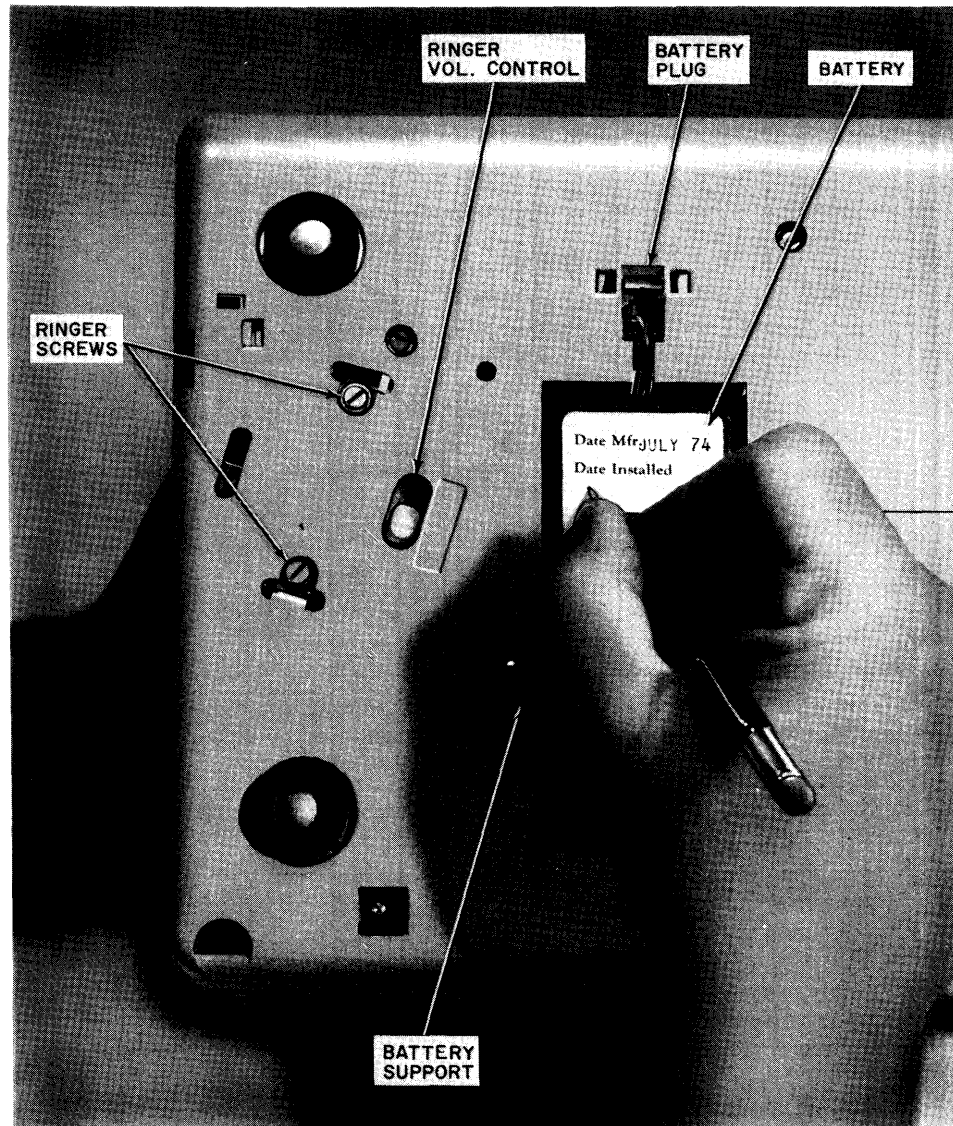

Fig. 6—2872A1M or 2872A2M Telephone Set, Bottom View
**3.02** The set is shipped from the factory with the battery disconnected. After all wiring changes and modifications have been completed, connect the battery (Fig. 6) by tilting the set up, and inserting the battery plug into the mating jack.
(c) Bottom of telephone set (Fig. 6):